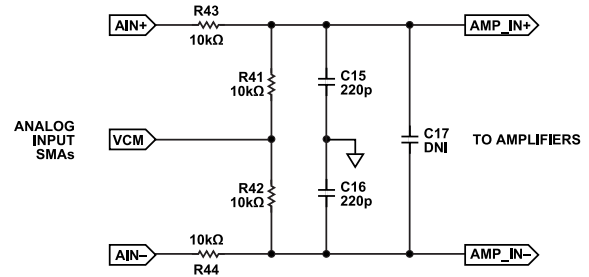

Figure 10. Signal and Common-Mode Inputs and Input Filter
- ▶ Passive filter network for signal generator noise and/or anti-aliasing filtering (see Figure 10)